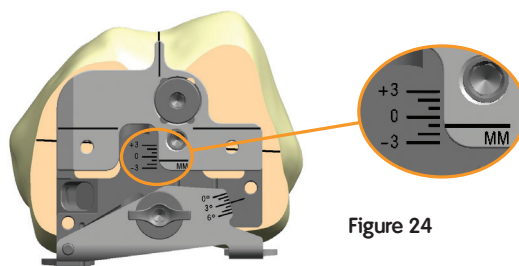

Figure 24
3. If there exists a known flexion/extension imbalance, unlock, translate and relock the drill guide appropriately (Figure 24).